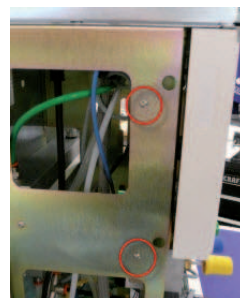

Figure 152 - EFM-Machine Retaining Screws
2. Remove the four retaining screws (two on each side) that secure the EFM to the machine (Figure 152).